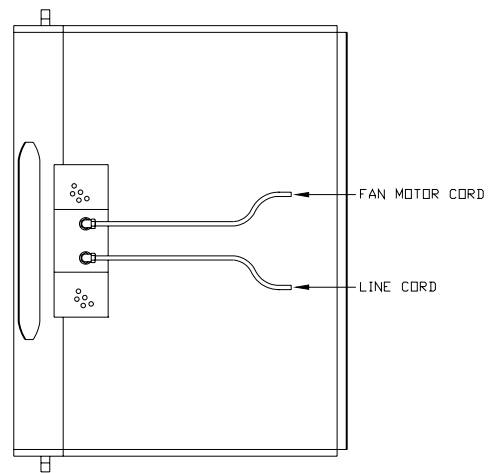

Figure 8. Strain Relief
Step 15: Insert the free end of the fan motor cord into the strain relief on the top of the electrical box, as shown in Figure 8.